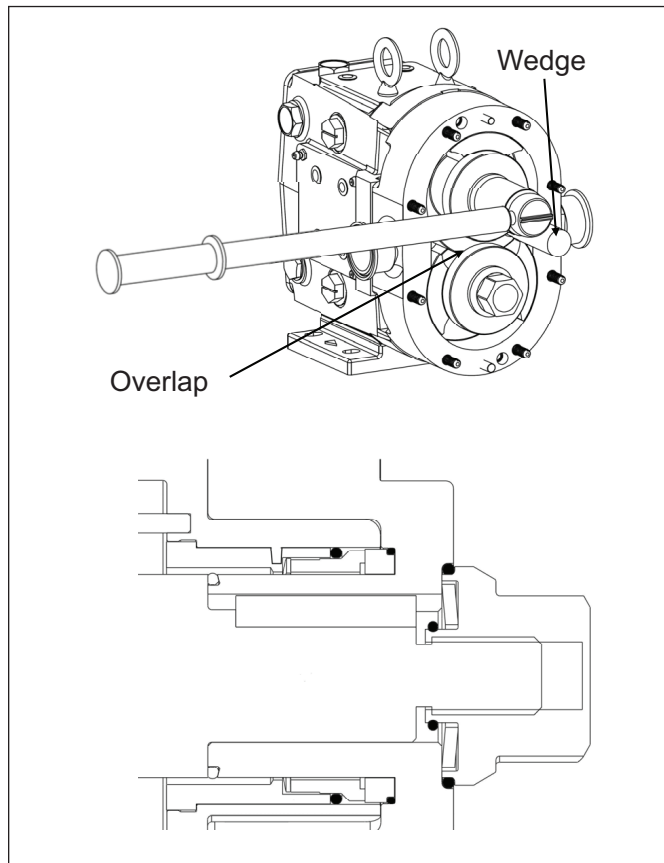

Figure 33. Rotor Assembly
7. Thread the nut onto the shaft and tighten it down using the appropriate wrench and a non-metallic wedge to hold the rotor in place (*Figure 33*). Reference *page 37* for rotor nut torque values. Orientate the rotors as seen in *Figure 33* and Always tighten the first rotor positioned under the overlap of the opposing rotor. Repeat with the second rotor in the same orientation.